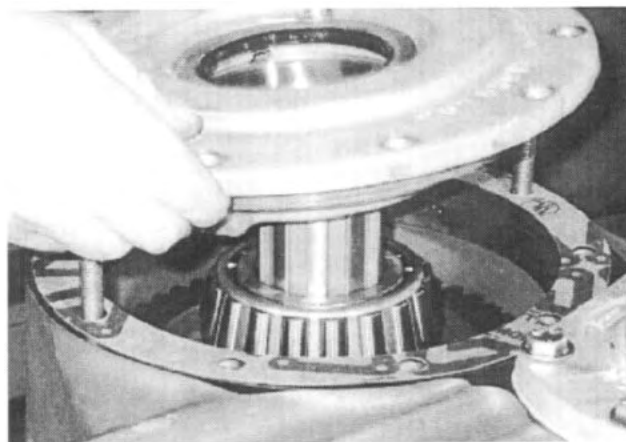

Fig. 91
30. Install a new gasket. If removed, install a new seal into the input carrier. Install the input carrier assembly onto the transfer case. Install and torque to specifications the input carrier hardware. *See Fig. 91.*